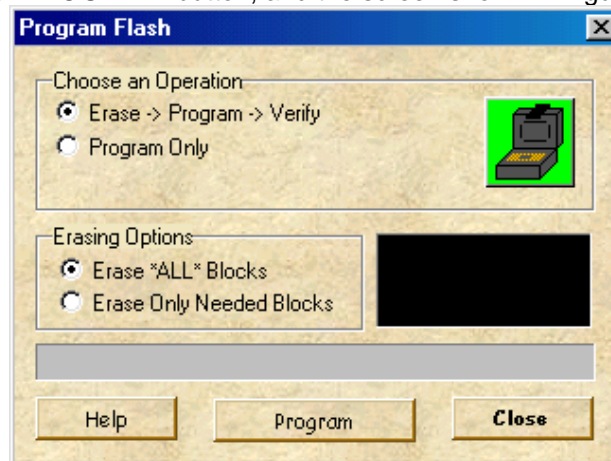

Figure 4-20 Program Flash screen
(1) Click the "PROGRAM" button, and the screen shown in Figure 4-20 will appear.